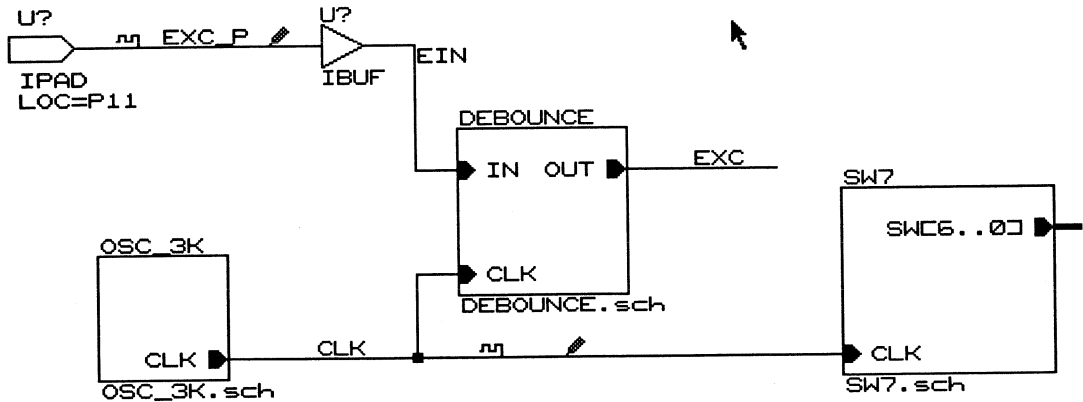

Figure 12-1 Stimulus and Trace Data for CLK and EXC_P
A small waveform marker (purple on color screens) appears above the net, as shown in Figure 12-1.
Be careful to place the stimulus marker well away from the symbol pins at either end of the segment, as shown in Figure 12-1.
13. Position the cursor on the EXC_P net as shown in Figure 12-1. Select **Place**.